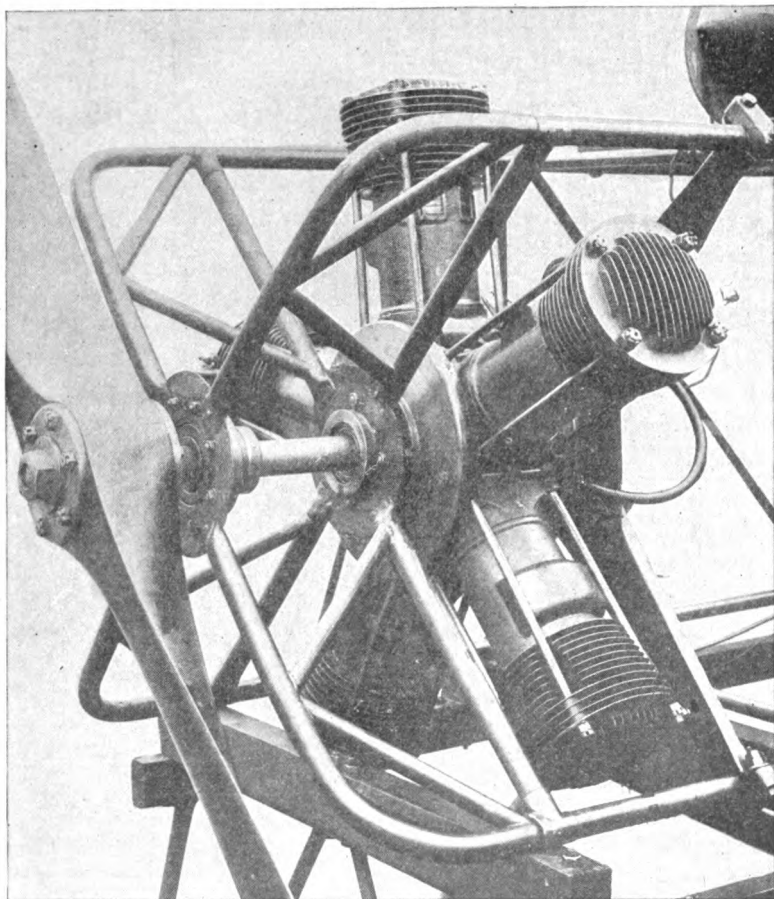
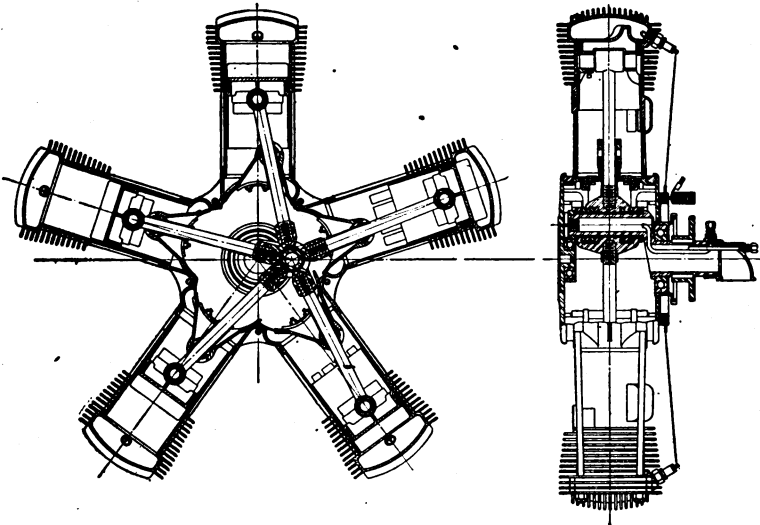

Fig. 73. General View of Frederickson Five-Cylinder Two-Cycle Rotating Motor
Fig. 74. Drawings Showing General Construction of Frederickson Five-Cylinder Motor
**Air-Cooled Engines. *Frederickson.*** There are very few two-cycle airplane engines, and not very many five-cylinder forms, so that the Frederickson motor shown in Fig. 73 presents several novelties. Its construction can be seen better in Fig. 74, where it will be noted that the connecting rods each carry a cone-shaped sliding sleeve actuated through a ball joint at the upper end to move sideways as the rotation of the crankshaft moves the rod sideways. In so doing the sliding sleeve opens and closes the con